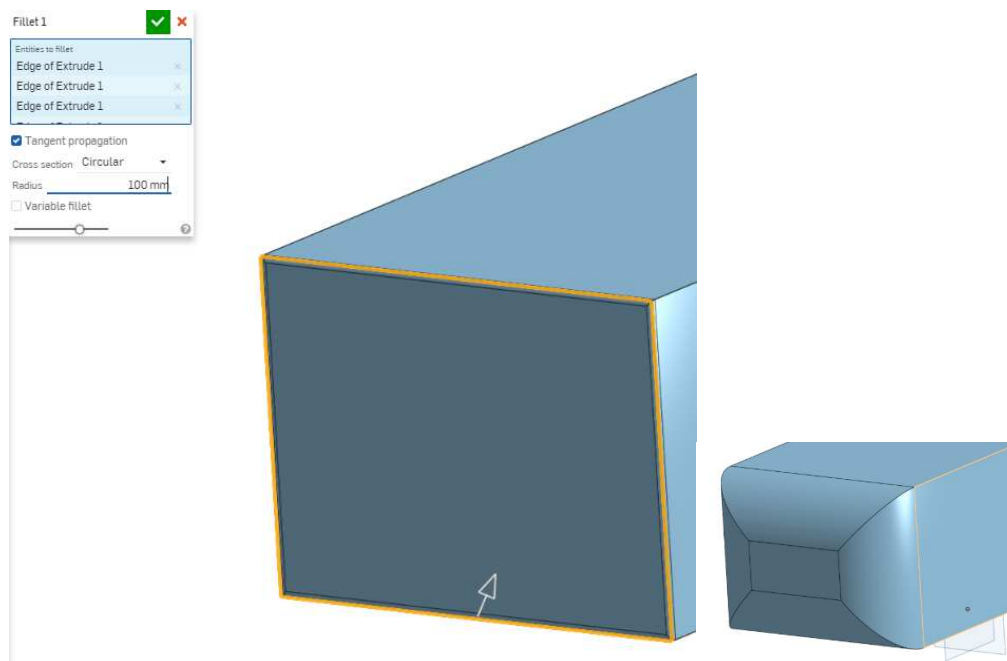

Figure 2.17: Filleting the front of the extrude.
- 14) Select the “Fillet” tool () and click on the front edges of the body as shown in figure 2.17 below. Then select “Circular” from the drop down menu with 100 mm as the radius and click ok (✓).